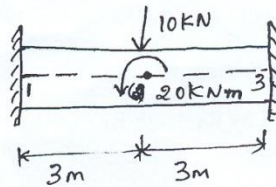

Fig. Q5(b)
- b. For the beam shown in figure Q5 (b), determine the displacements at node 2. Take $E = 210\text{GPa}$ $b = 0.2\text{m}$ and $h = 0.4\text{m}$ (10 Marks)